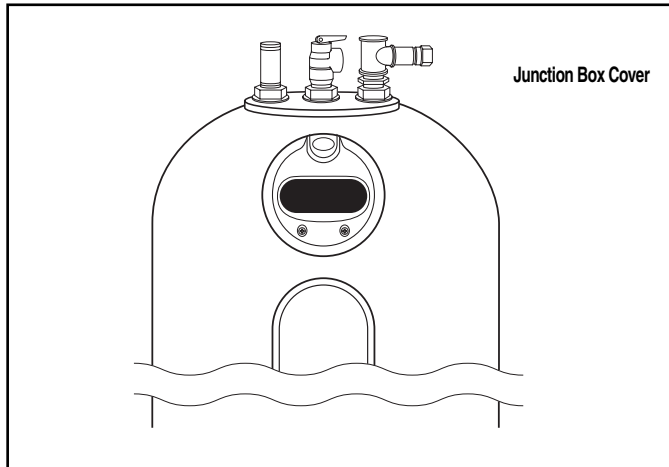

Figure 4 — Water heater junction box location.
- ELECTRICAL CONNECTIONS** — The water heater is completely wired to the junction box inside jacket at top front of water heater (see Figure 4). An opening for a 1/2" or 3/4" electrical fitting is provided for field wiring connections. A separate branch circuit with copper conductors, overcurrent protective device and suitable disconnecting means must be provided by a qualified electrician. The voltage requirements and wattage load for the water heater is specified on the rating plate on front of heater. Be certain that the